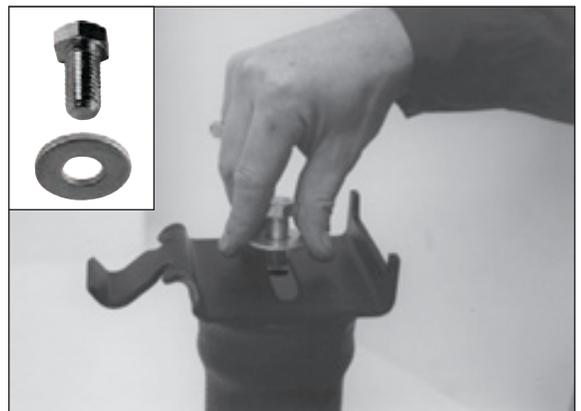

Figure 6
5. Loosely attach the lower bracket (C) to the bottom of the air spring with  $\frac{1}{2}$ " flat washer (L) and  $\frac{1}{2}$ " Hex Head Cap Screw (J). See Figure 6.